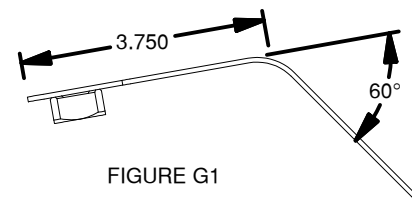

FIGURE G1
1. The forward mounting rail. Re-position the forward mounting rail over the drilled 9/16" holes in the bed. Place a 5/16" thick offset spacer between the bed and the mounting rail at the five drilled positions. The two outside rear bolt locations are not accessible under the bed due to the bed cross member. A 1/2" x 2" cap screw and nut guide will need to be utilized. Prepare the nut guides by putting a 60° bend in the handle about 3-3/4" from the top, see Figure G1.